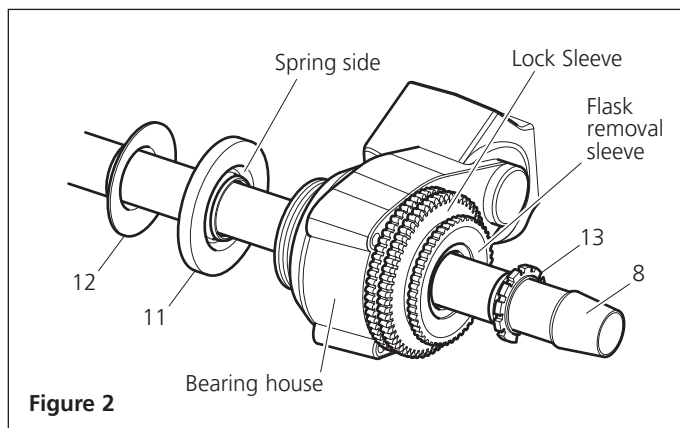

Figure 2
- Pass the plain end of the vapour tube (8) through the right side of the motor assembly and push into position until it locates firmly behind the spring clip. The conical joint should be to the right of the motor when viewed from the front.
- Place the main vacuum seal (11) and sub-seal (12) onto the plain end of the vapour tube (left) and slide them down until they locate in the bearing housing. It is important that these elements are fitted in the correct order and that the spring loaded side of the main vacuum seal (11) faces the bearing housing (figure 2).
- Place the retaining clip (13) on the jointed side of the vapour tube (right) and slide until it clips in the flask removal sleeve (figure 2).